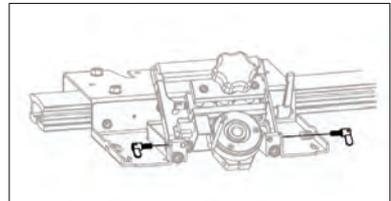

Figure 4
4. Tighten the BAB1590 with the screws that are included in the BAB1590 box. (See Figure 4)